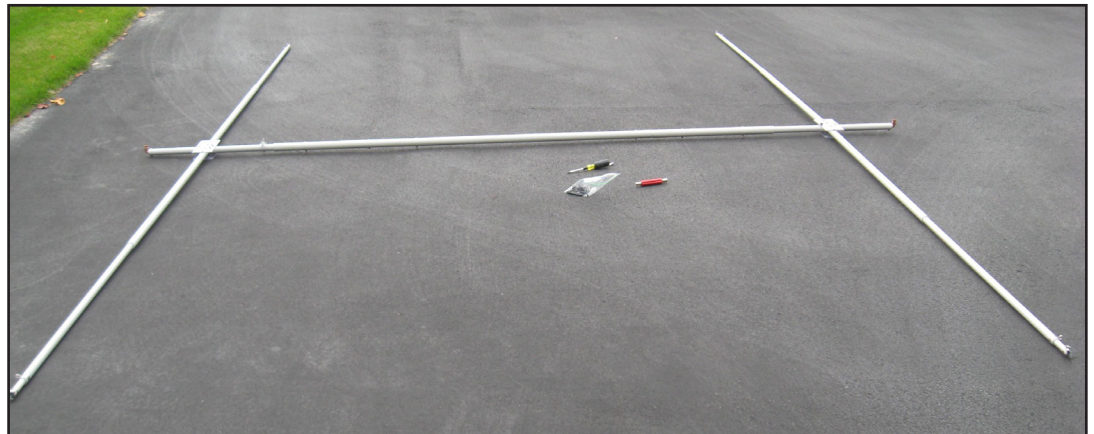

Fig. 64
- ☐ Align all holes and re-insert the fastener removed in the previous step. Also insert one (1) 10-24 x 2.0" SS machine screw in the Driven Element Assembly Boom End as shown in Fig. 64. Add a 10-24 Anti-vibration Hex Nut to each machine screw.